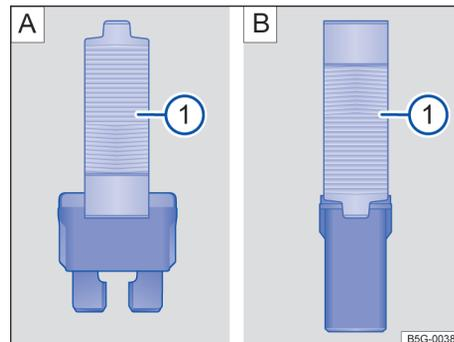

Fig. 159 Removing or installing a blade fuse with the plastic tweezers: **A**: Blade fuse. **B**: JCASE® fuse.
- Depending on the type of fuse, slide the tweezers → fig. 159 [A] ① or → fig. 159 [B] ① onto the fuse from the side.
- If the fuse is blown, replace the fuse with a new fuse of the *same* amperage (same color and same imprint) and *same* size → ①.